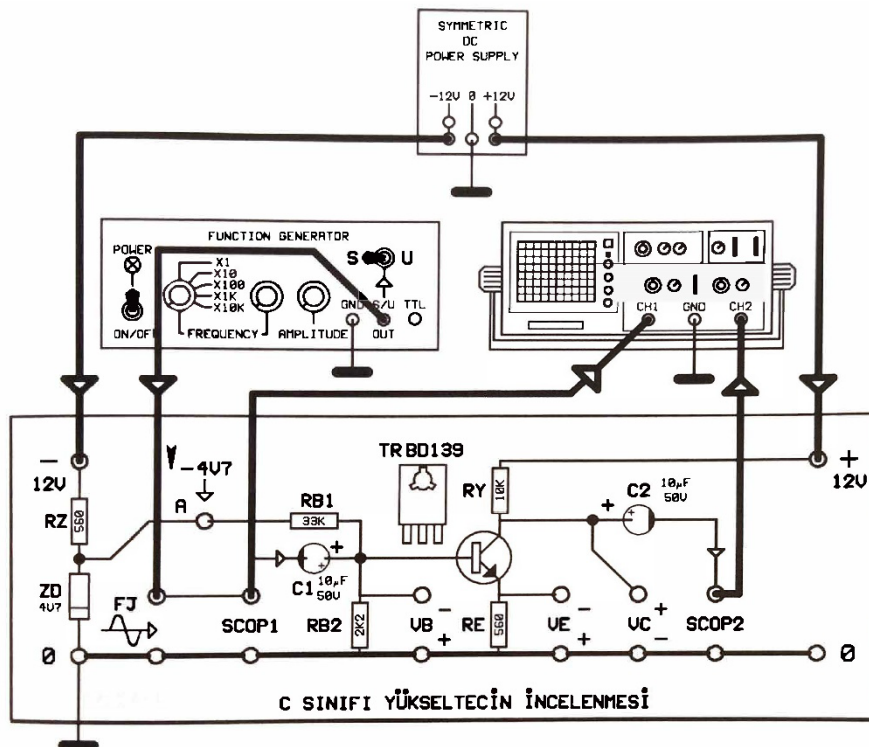

Figure 7: Connection scheme of class-C amplifier
14. Connect the patch wires to the module as it is shown in Figure 7.